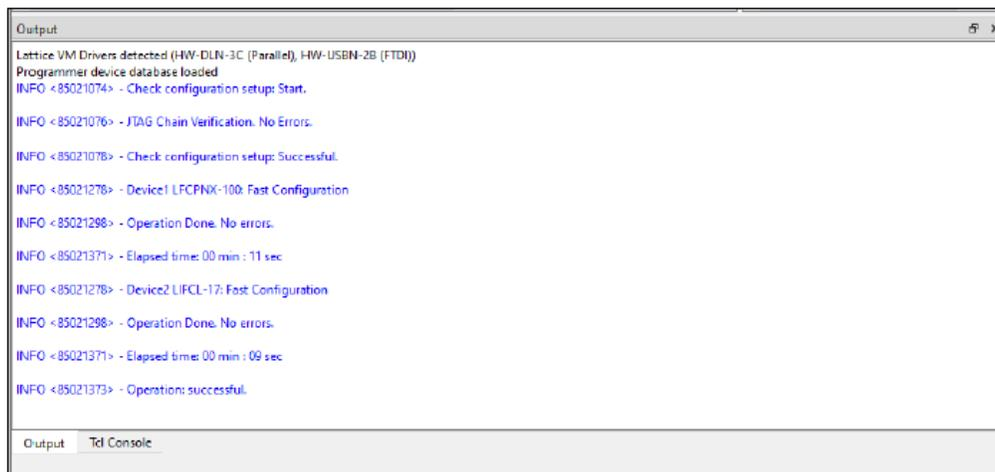

Figure 6.44. Output Window
7. Verify the programming result in the Output console at the bottom of Lattice Radiant Programmer. You should see **Operation: Successful** (Figure 6.44).